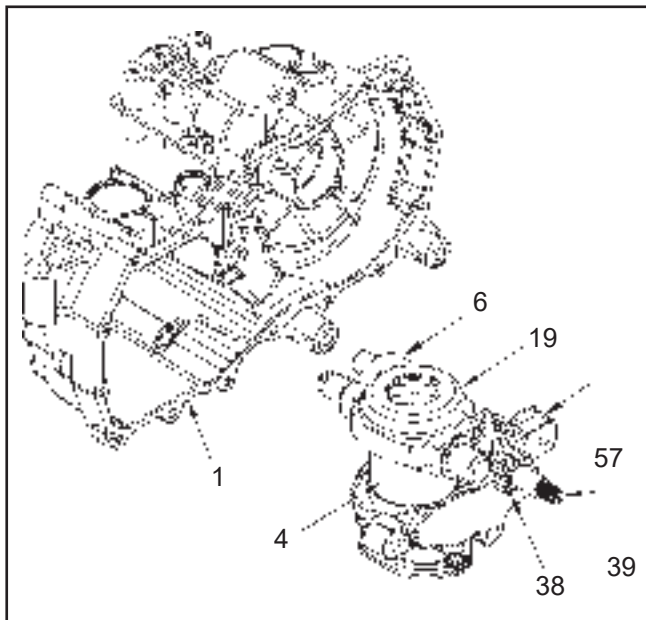

Figure 25.
14. *Care must be taken to prevent the scaring or scratching of the center section sealing face during this step.* Insert the shaft of the swashplate/pump block assembly (Figure 25) into the housing while simultaneously compressing the pistons in the block. NOTE: To assist in the installation of these components, insert the assembly until 3/4 of the pump block is covered by the center section. Then slightly press the shaft end toward the center section while pushing the shaft into its bore.